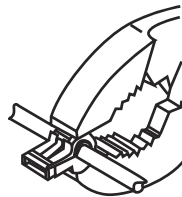

Figure 4
1. Mount the dash switch plate (Fig. 4) in a convenient location with easy access to defroster on/off switch using the self tapping screws